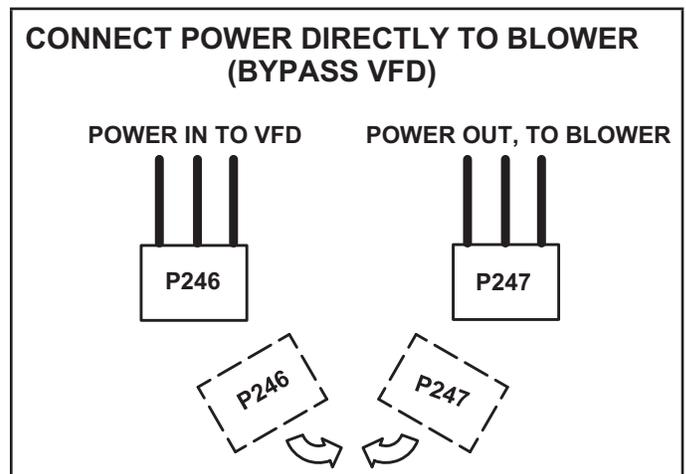

FIGURE 37
- 4 - Connect P246 to P247. See FIGURE 37.